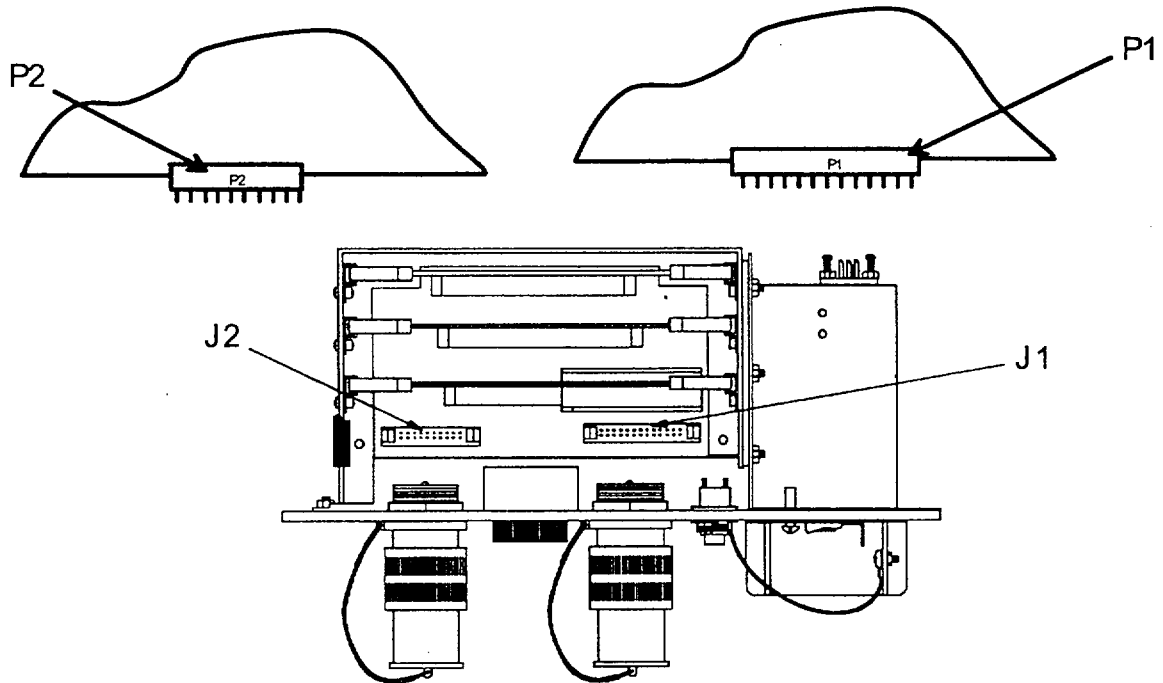

FIGURE 5-1. P1, P2, J1 and J2 Location.
- (17) Check to ensure that P1 is properly seated in J1 (located on motherboard inside card cage assembly as shown in Fig. 5-1).
- (18) Check to ensure that P2 is properly seated in J2 (located on motherboard inside card cage assembly).
Step 10.	Locate front panel discreet function connector (J1) and OSM display connector (J2). Fig. 5-1 shows the location of J1 and J2.